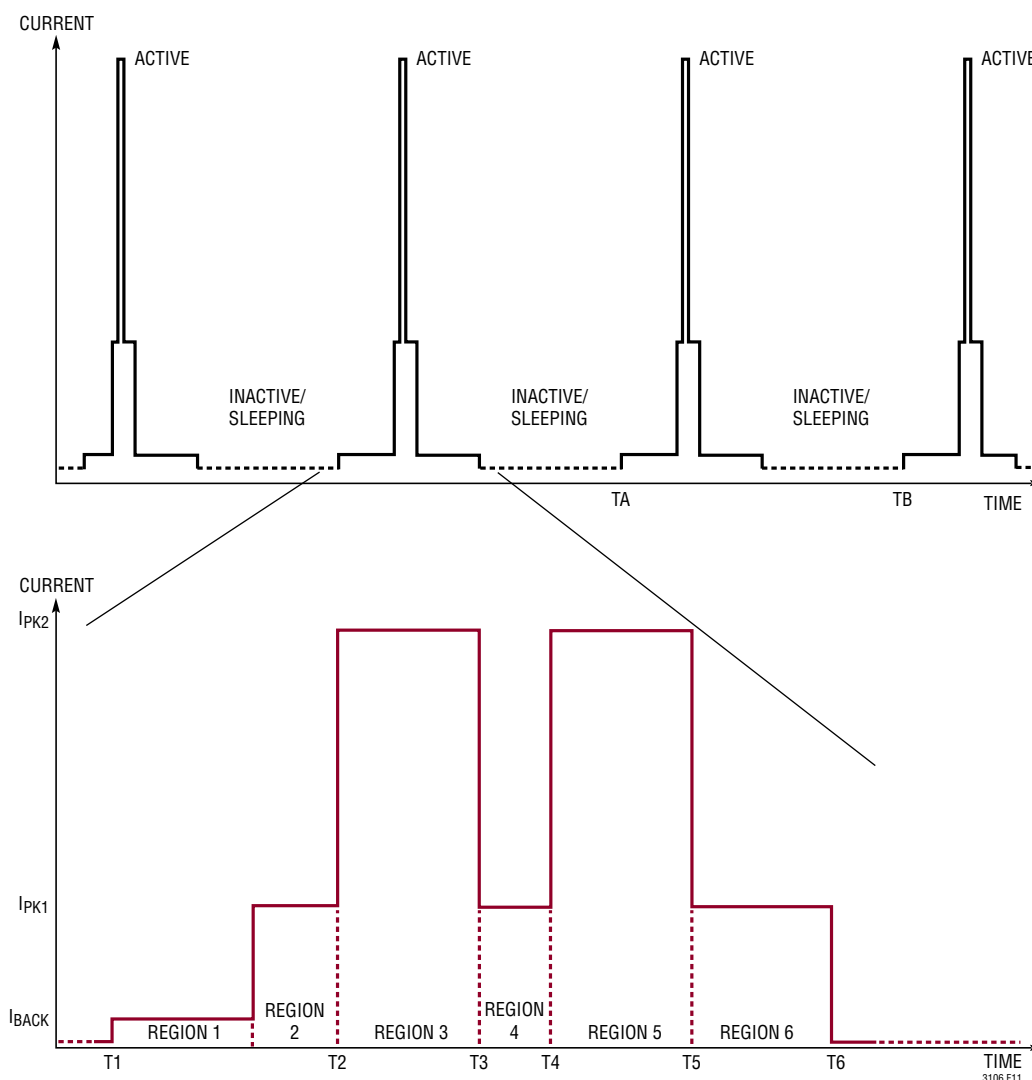

Figure 11. Application Load Profile for Schematic in Figure 8
In this application the load is a low power proprietary RF profile (Figure 11). The regions of operation are described, output and power losses are tabulated and the peak levels for each are given in Table 8. The total average output power needed in this application can be calculated to be 191μW.
Table 8. Application Load Profile Power Budget for Figure 11
**Table 10. Application Load Profile Power Budget for Figure 11**